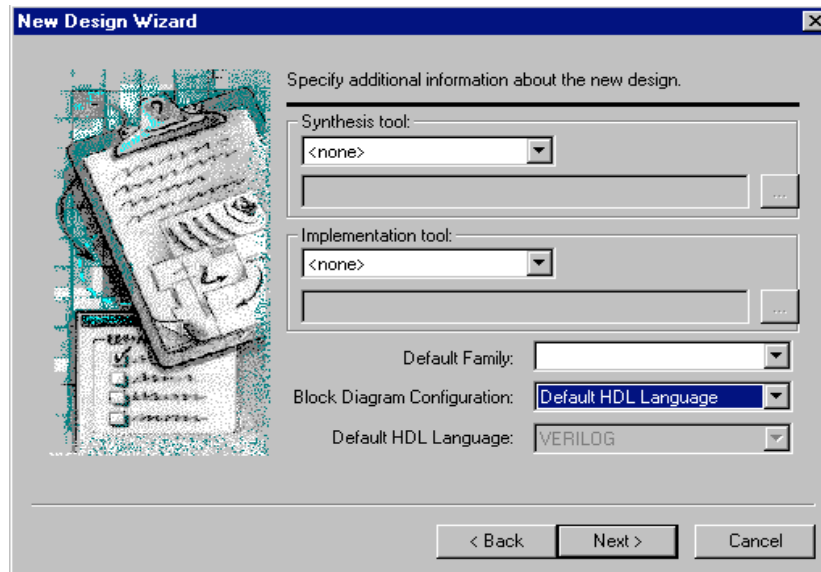

Figure 4
2. Find the “Block Diagram Configuration” field and select the “Default HDL Language” option. Make sure the “Default HDL Language” field is set to “VERILOG.” Leave the “Synthesis tool” field and the “Implementation tool” field blank since we will not be synthesizing yet. Your New Design Wizard window should look like Figure 4. If so, then click the Next button.